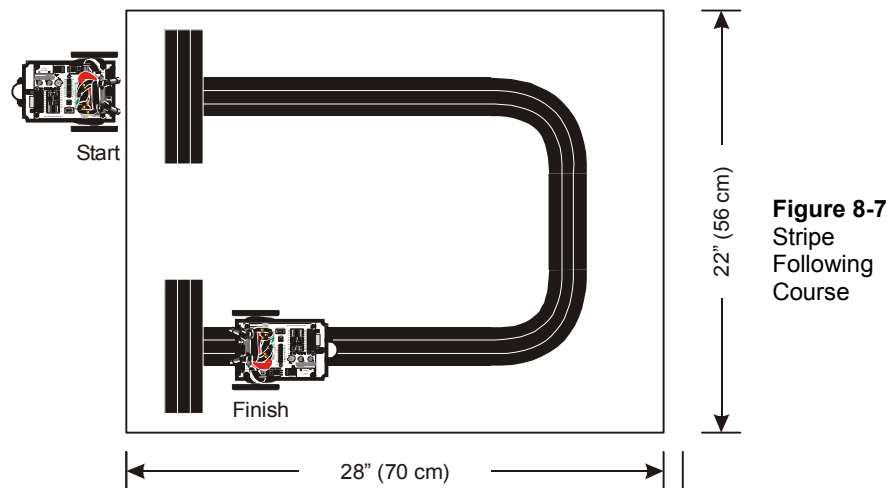

Figure 8-7
Figure 8-7 shows an example of a course you can build and program your Boe-Bot to follow. Each stripe in this course is three long pieces of $\frac{3}{4}$ in (19mm) vinyl electrical tape placed edge to edge on white poster board. No paper should be visible between the strips of electrical tape.
- (1) Roll of Black Vinyl Electrical Tape – $\frac{3}{4}$ " (19 mm) wide.
- ✓ Use your poster board and electrical tape to build the course shown in Figure 8-7.